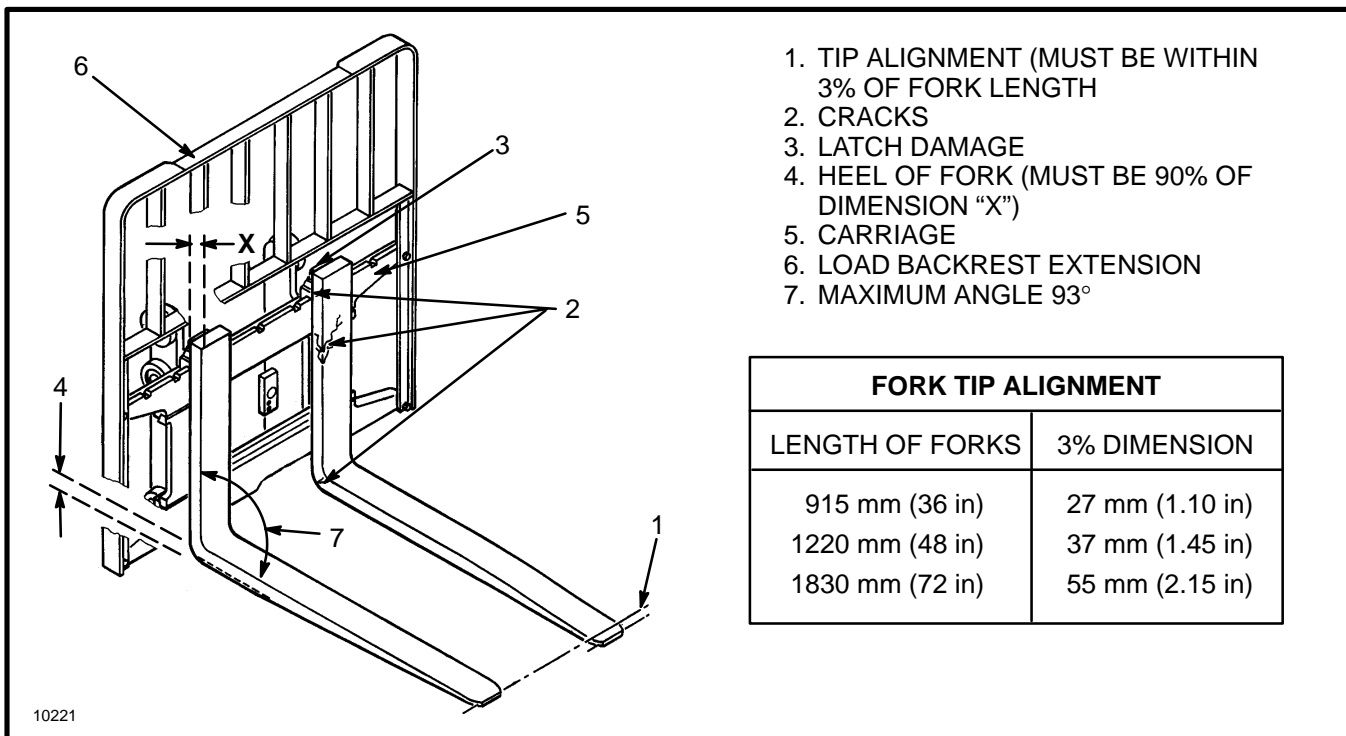
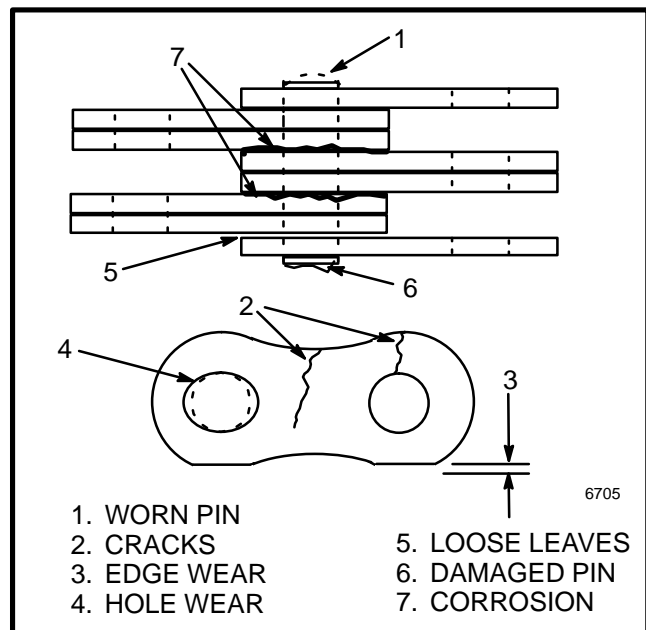

FIGURE 7. CHECK THE FORKS
FIGURE 8. CHECK THE LIFT CHAINS
(See FIGURE 7. and FIGURE 8.)**
4. Inspect the forks for cracks and wear. Check that the fork tips are aligned within 13 mm (0.5 in) of each other. See FIGURE 7. Check that the bottom of the fork is not worn (Item 4).
7. Inspect the lift chains for cracks and broken links and pins. See FIGURE 8.